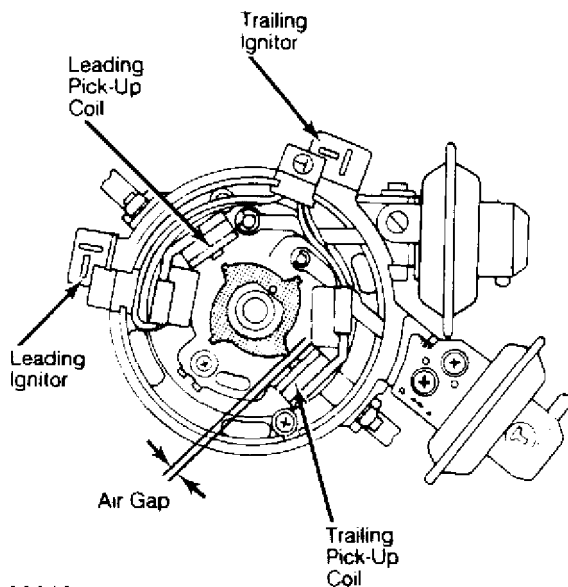

Fig. 2: Adjusting Distributor Air Gap
A reluctor (signal rotor) is mounted on the reluctor (rotor) shaft. It turns inside 2 magnetic pick-up coils, one for the leading side and one for the trailing side. See Fig. 2.
1) Remove distributor cap and rotor. Turn distributor shaft until the extended tooth of the reluctor (signal rotor) aligns with core of pick-up coil. See Fig. 2.